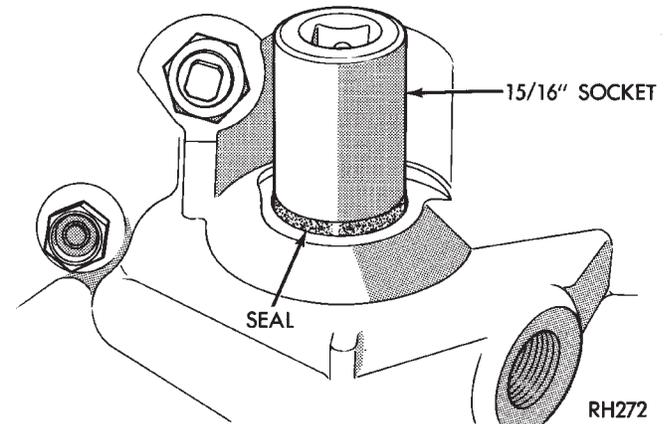

Fig. 56 Manual Lever Shaft Seal
(2) Check condition of manual lever shaft seal in transmission case. Replace seal if lip is cut or worn. Install new seal with 15/16 deep well socket (Fig. 56).